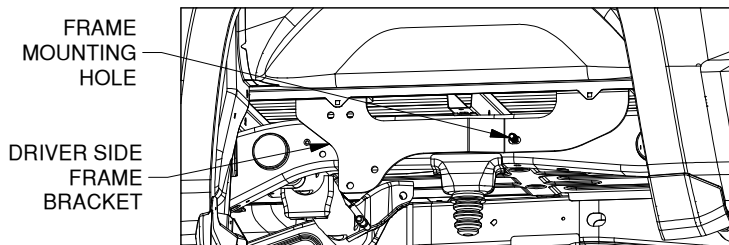
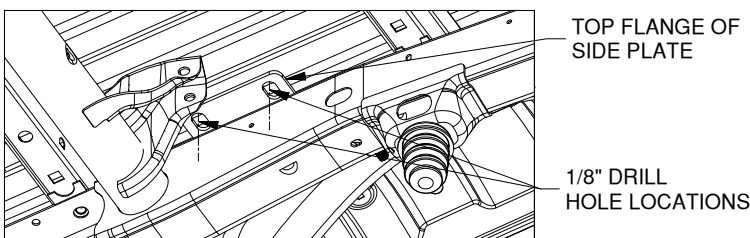

Figure C3: View looking into driver side wheel well.
Figure C4: View under bed looking up at drilled area and side plate.
3. **Check hole locations.** Using the side plates, align each bracket to the side of the frame where the side plates will be installed, see Figure C3. Check that the 1/8" holes are centered within the slots in the side plates, see Figure C4. If the 1/8" drilled holes are not centered re-drill the 1/8" holes until the side plates and the drilled holes are aligned.